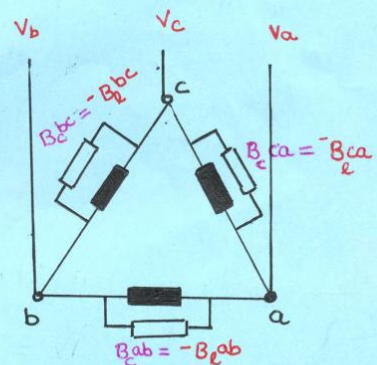

Fig 2. Connection of P.F. correcting susceptance in individual phases
④ * An ideal load compensator is considered as any passive admittance (3Ph) network, when combined in parallel with the load, → will present a REAL & SYMMETRICAL LOAD.
* It is made REAL as shown in fig 2 by connecting a parallel compensating susceptance = to -ve of load susceptance.